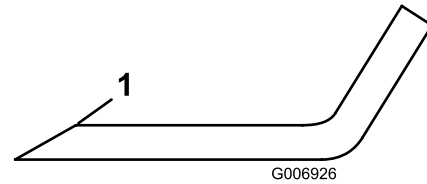

Figure 68
5. Inspect the cutting edges of all blades. Sharpen the cutting edges if they are dull or nicked. Sharpen only the top of the cutting edge and maintain the original cutting angle to make sure that it is sharp (Figure 68).
6. If dull or nicked, sharpen only the top cutting edge while maintaining the original cutting angle (Figure 68).